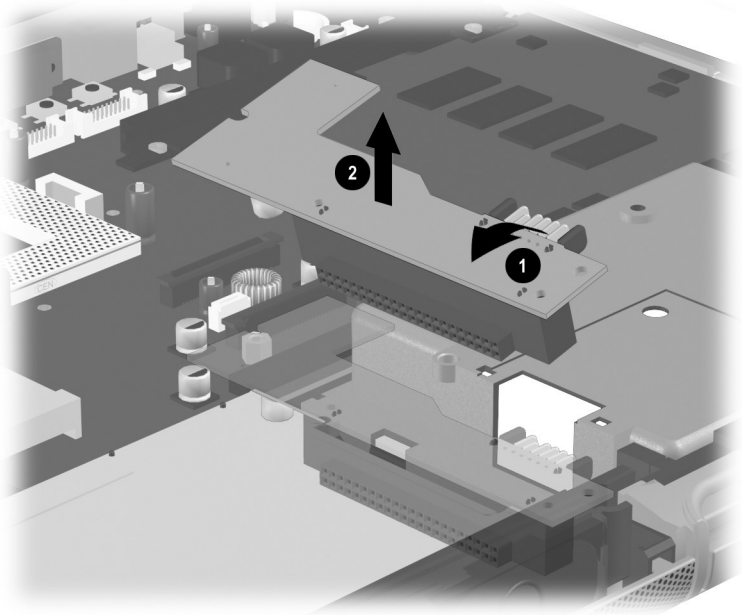

Figure 5-40. Removing the Charger Board
4. Swing the right side of the charger board up and to the left ❶ until the hard drive connector clears the system board (Figure 5-40).
5. Remove the charger board ❷.